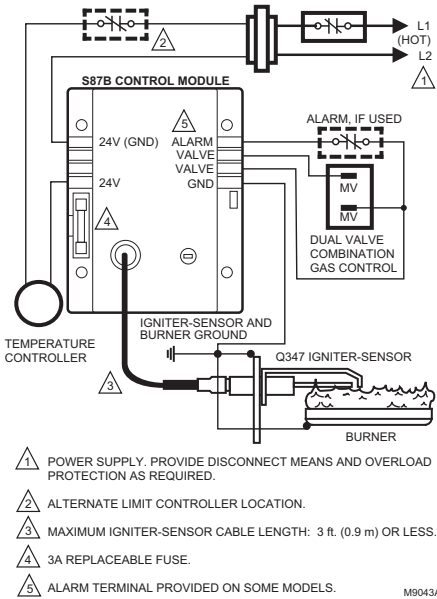

Fig. 7. Typical wiring connections for 24 volt control in S87 Direct Ignition System.
3. Connect the control circuit to the gas control terminals. See Fig. 7 and 8.